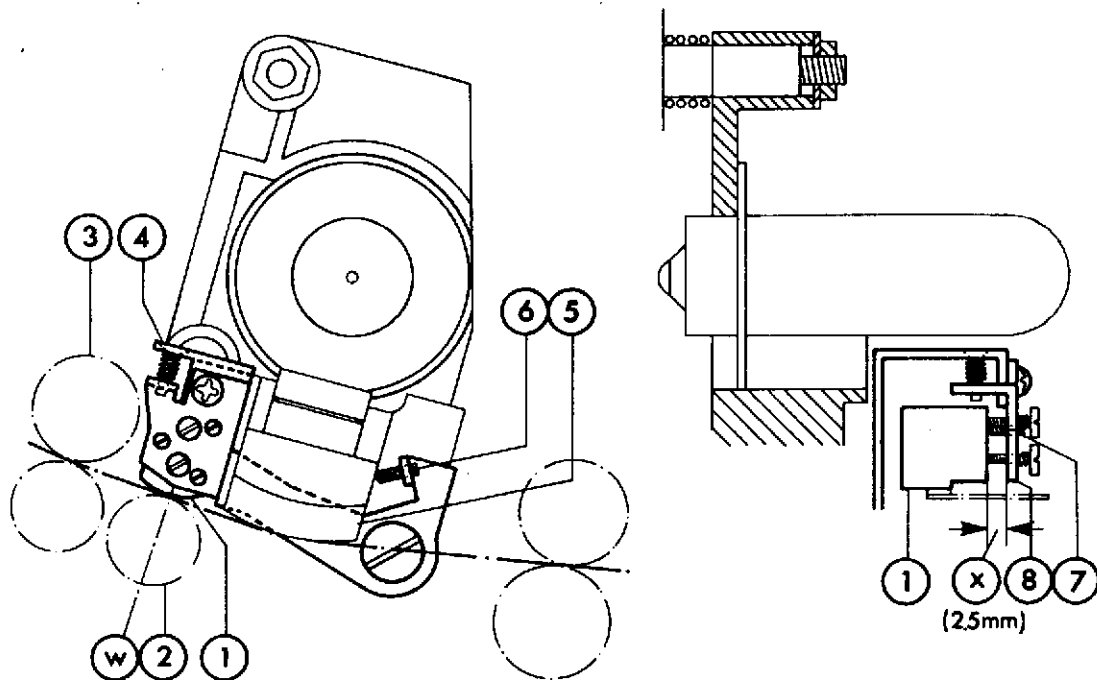

Fig. 28
- \* Adjust the position of Fig. 28-1 by turning Fig. 28-4 so that the center of Fig. 28-1 may coincide with the center line of Fig. 28-2 ((w) in Fig. 28).
- \* Adjust the distance between Fig. 28-1 and 8 ((x) in Fig. 28) to be about 2.5mm by turning Fig. 28-7x3, and load a film.